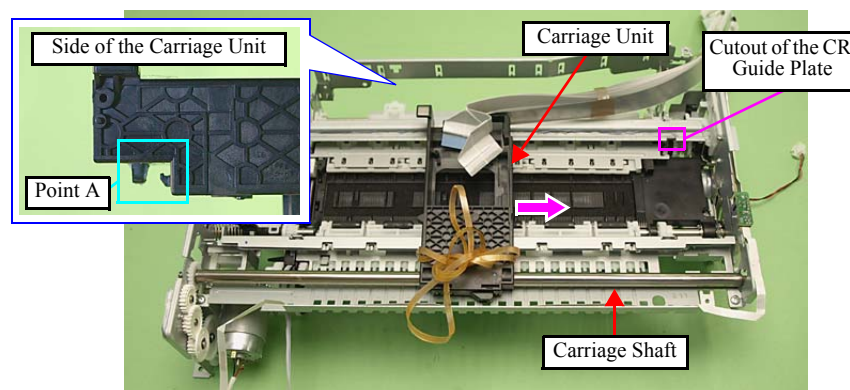

Figure 4-136. Removing the Carriage Unit (5)
- Align the point A on the rear of the Carriage Unit with the cutout of the CR Guide Plate to install the Carriage Unit. (See Fig. 4-136.)